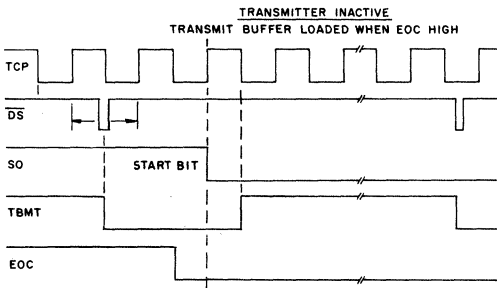

Fig.28 TRANSMITTER AT START BIT
- NOTE: SEE FIGURES 28, 29, 30 FOR DETAILS.